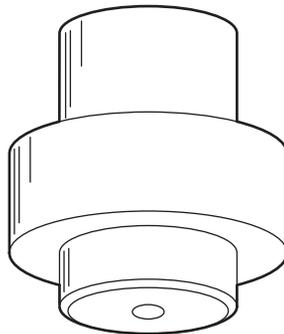

Figure 2-4 Wash Seal Installation Tool
3. Using the wash seal installation tool (Figure 2-4), press the wash seal spacer until it bottoms in the wash seal cavity.
13. Carefully remove the wash fitting installation tool, and then use the wash seal installation tool (Figure 2-4) to bottom the retaining ring against the wash seal.
8. Use the wash seal installation tool (Figure 2-4) to bottom the plunger wash seal against the wash seal spacer.